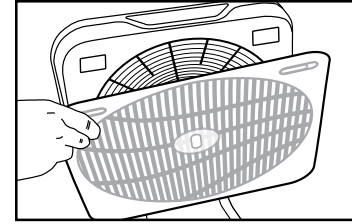

Fig. 20
9. Hold engaged bottom of the grill plate in place and push the top of the grill plate back toward the unit until the release tabs at the top of the grill click back into place. See Fig. 20